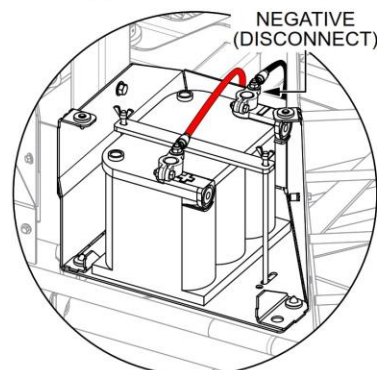

Figure 4. Disconnect Battery
3. Disconnect the negative (**BLACK**) battery cable from the negative (-) terminal on the battery. See Figure 4.